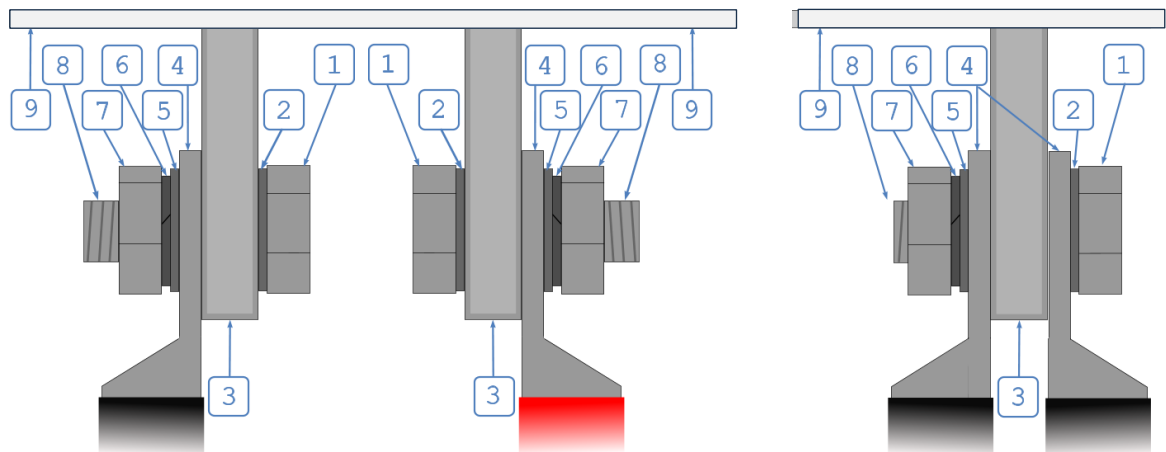

Figure 2.11: Screw and washer arrangement on copper bars
For devices with copper bars as load input, observe the screw and washer arrangement in Figure 2.11!
For models with copper bars, the arrangement of screws and washers shown in Figure 2.11 applies. For high currents, two load cables should be installed per bar, see Figure 2.11 on the right.
2. Connect the load cables to the copper bars as shown in Figure 2.11 using the screws and washers supplied, so that they run straight away from the bars.
- Follow the screw and washer arrangement shown in Figure 2.11 to ensure the appropriate safety distances!